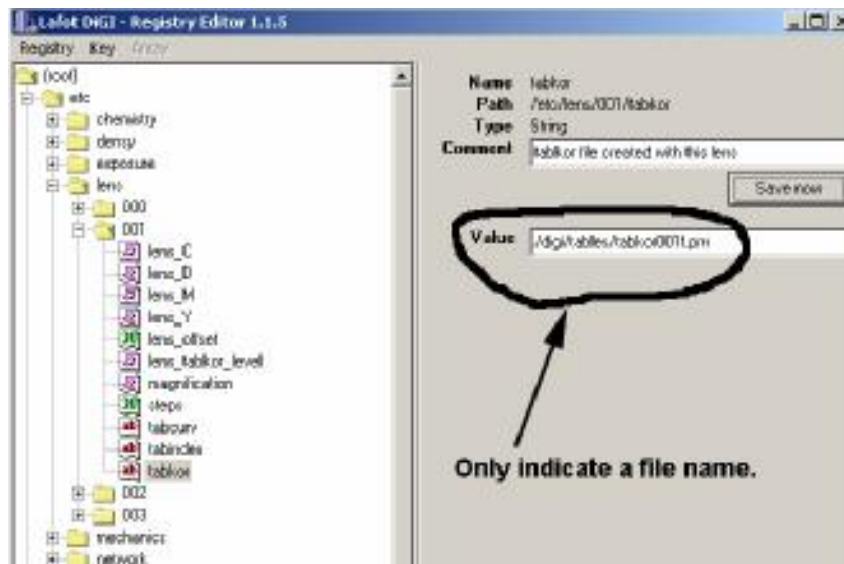

Fig 2.7.14
- The Mask files are saved in `\\10.1.1.1\\tables` folder, the value of **tabkor** which is under **etc/lens/00x** in the Linux Registry only indicate a file name (Fig 2.7.14).